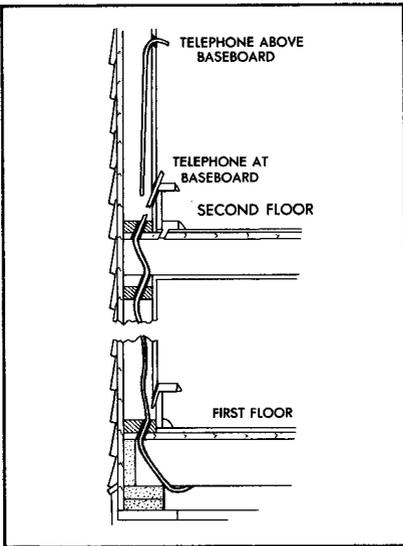

FIGURE 3. Fishing Outside Walls
f. When fishing walls with obstructions, proceed as follows: See Figure 3.
(1) Loosen molding above baseboard on upper floor and drill hole downward through wall and plates above joist.
(2) Loosen molding at baseboard on upper floor and drill hole downward through floor and plates below joist.
(3) Loosen molding above baseboard on first floor and bore downward through wall and plates.
(4) On upper floor, pass fishing chain with twine attached through hole above baseboard, and with a piece of wire, hook chain through hole at baseboard and pass it through plates.
(5) On first floor, find fishing chain through hole above baseboard and pass it through plates.
(6) If basement has a ceiling, drill hole upward at location of chain and fish it out into basement.
(7) Tie on wire and pull it up to upper floor by use of twine.